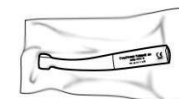

Figure 12
3. Place the handpiece in a sterilization pouch and follow your country specific directives, standards, and guidelines for sterilization temperature and times. (Figure 12)
2. Place handpiece in sterilization bag and sterilize for 3 minutes at a maximum of 135 °C (Figure 12)